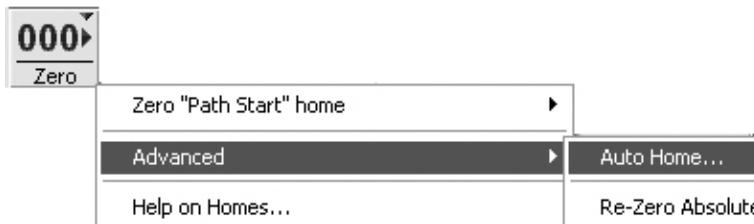

Figure 3-5
19. Auto Home the machine to ensure that the machine's zero (absolute home) position is set. Right-click the bottom **Zero** button, and select **Advance/Auto Home** (see Figure 3-5).